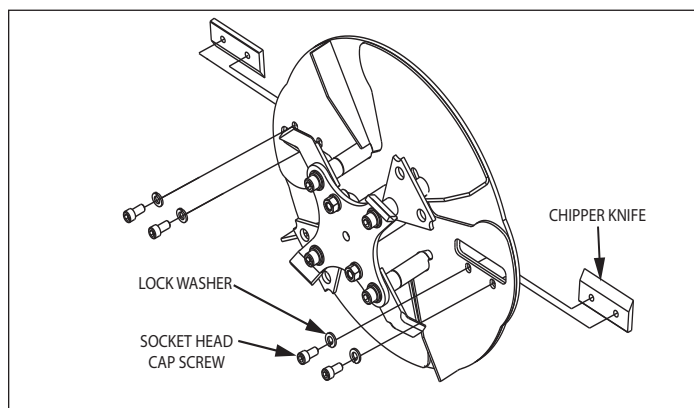

FIGURE 16 - Removing the Chipper Knives
5. Using a hex wrench, remove the two socket head cap screws and the chipper knife. **SEE FIGURE 16**